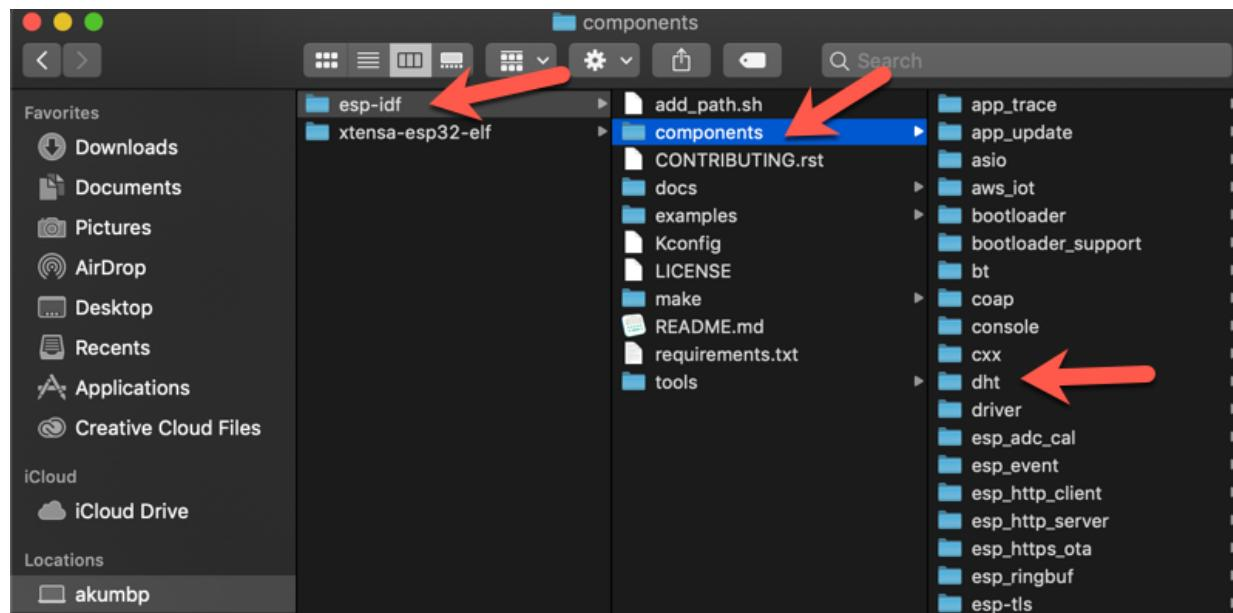

Figure 2-5: Adding the dht component on ESP-IDF
3. Copy the `dht` components folder from the `esp-idf-lib` project into your local `esp-idf/components` folder. You can see that my `dht` component has been copied in Figure 2-5: